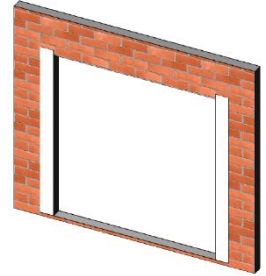

Figure 19:
2. At each jamb, embed the flashing paper into the sealant onto mounting flange and fasten into place. The flashing paper should be cut sufficiently long enough to extend at least 3 in. past the weep-screed or diado flashing and at least 6 inches above the head of the window (Figure 19).